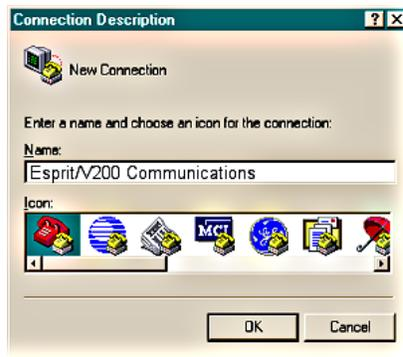

Figure 7-6: Entering a Name for the Connection to the Ventilator
4. Enter a name for the connection (*Esprit/Respironics V200 Communications* is entered in Figure 7-6) choose an icon, and then click **OK**).